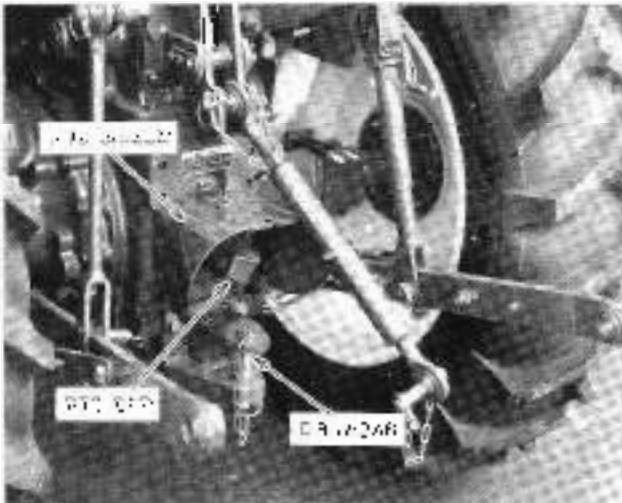

Figure 12 PTO Shield and Cap
Figure 12 illustrates how to engage the PTO. The operator is required to follow "COMFORT OPERATIONS" (see ATOMS).
- Depress the clutch pedal to disengage the engine flywheel, then shift the gear selector lever to the neutral (N) position.
- Depress the PTO clutch lever (see Figure 12) to the zero (0) position to disengage the PTO.
- Shift off the PTO clutch lever and return the gear selector lever to the neutral (N) position.
- With the engine running, if equipped, depress the clutch pedal completely, then engage the PTO by moving the PTO control lever (Figure 12) to the desired operating speed.
- Depress the clutch lever (see Figure 12) to the zero (0) position to disengage the PTO when traveling on highways or for any great distance.